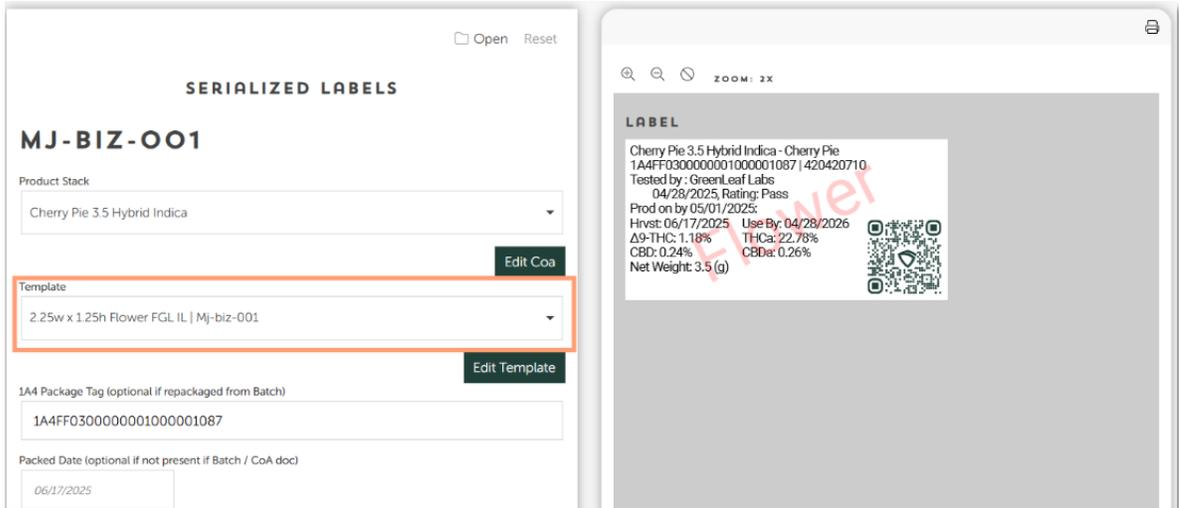

Figure 18: Label Template dropdown
- b. Choose your Template - **see Figure 18.**